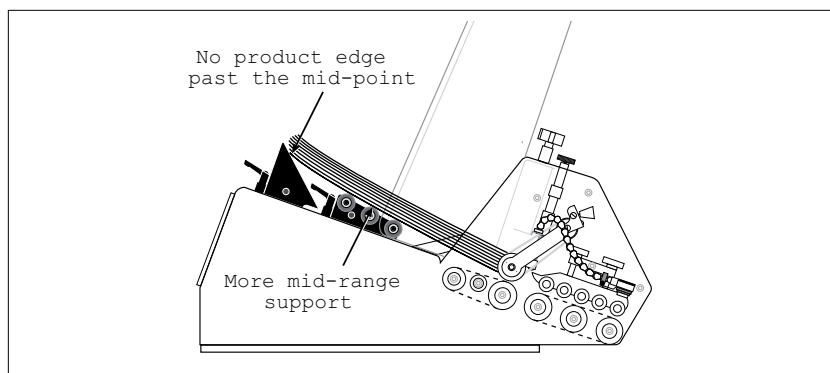

Figure 7-4. Separate Triangle and Low-Profile Wedge Setup
**Setup guidelines:** Adjust the triangle wedge the same way that you would the combined triangle/low-profile wedge assembly (see previous page). Set the low-profile wedge relative to the triangle wedge so it lifts the bottom of the stack off the table top to eliminate friction and create body. Again, make sure edges of product do not touch or overhang tips of triangle wedges. See Figure 7-4.